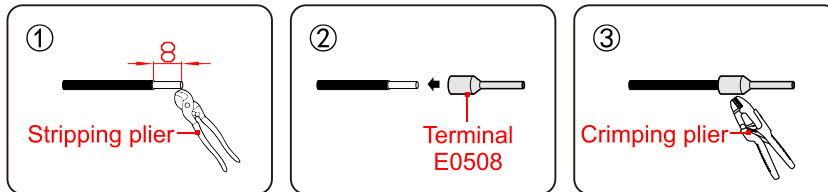

Figure4-27 Crimp the external communication cables
Step 2 Crimp the external communication cables, as shown in Figure4-27.